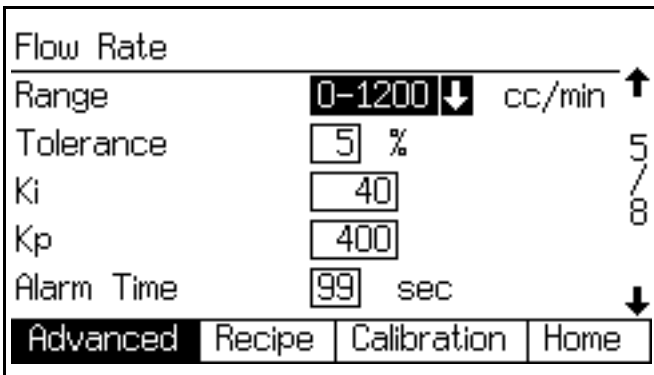

FIG. 82. Advanced Setup Screen 5 (Automatic Mode with Flow Control Only)
2. Go to **Advanced Setup Screen 5** (see FIG. 82). Select the flow rate range that best covers the largest flow target for your application (for example, 0-1200).